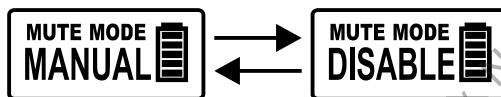

Fig. 31
(C) MUTE MODE Setting. Fig. 31:
- (1) Select MANUAL or DISABLE.
- (2) MANUAL: Use MUTE button to mute/unmute.
- (3) DISABLE: MUTE button is disabled. Mute setting is canceled.